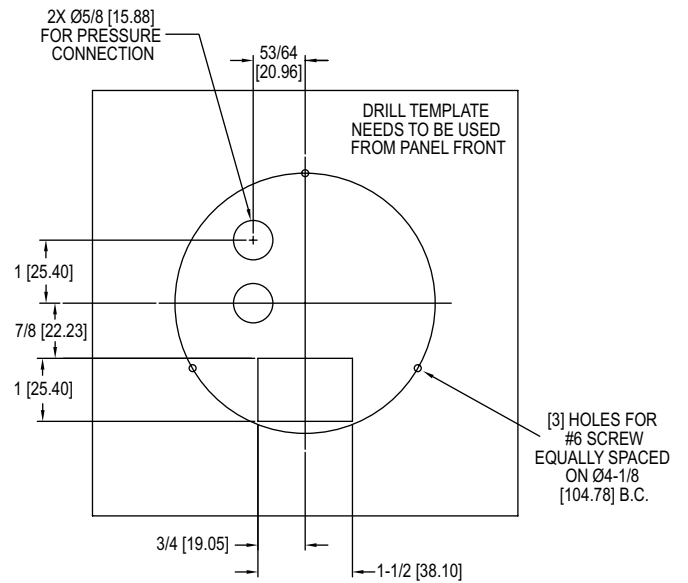
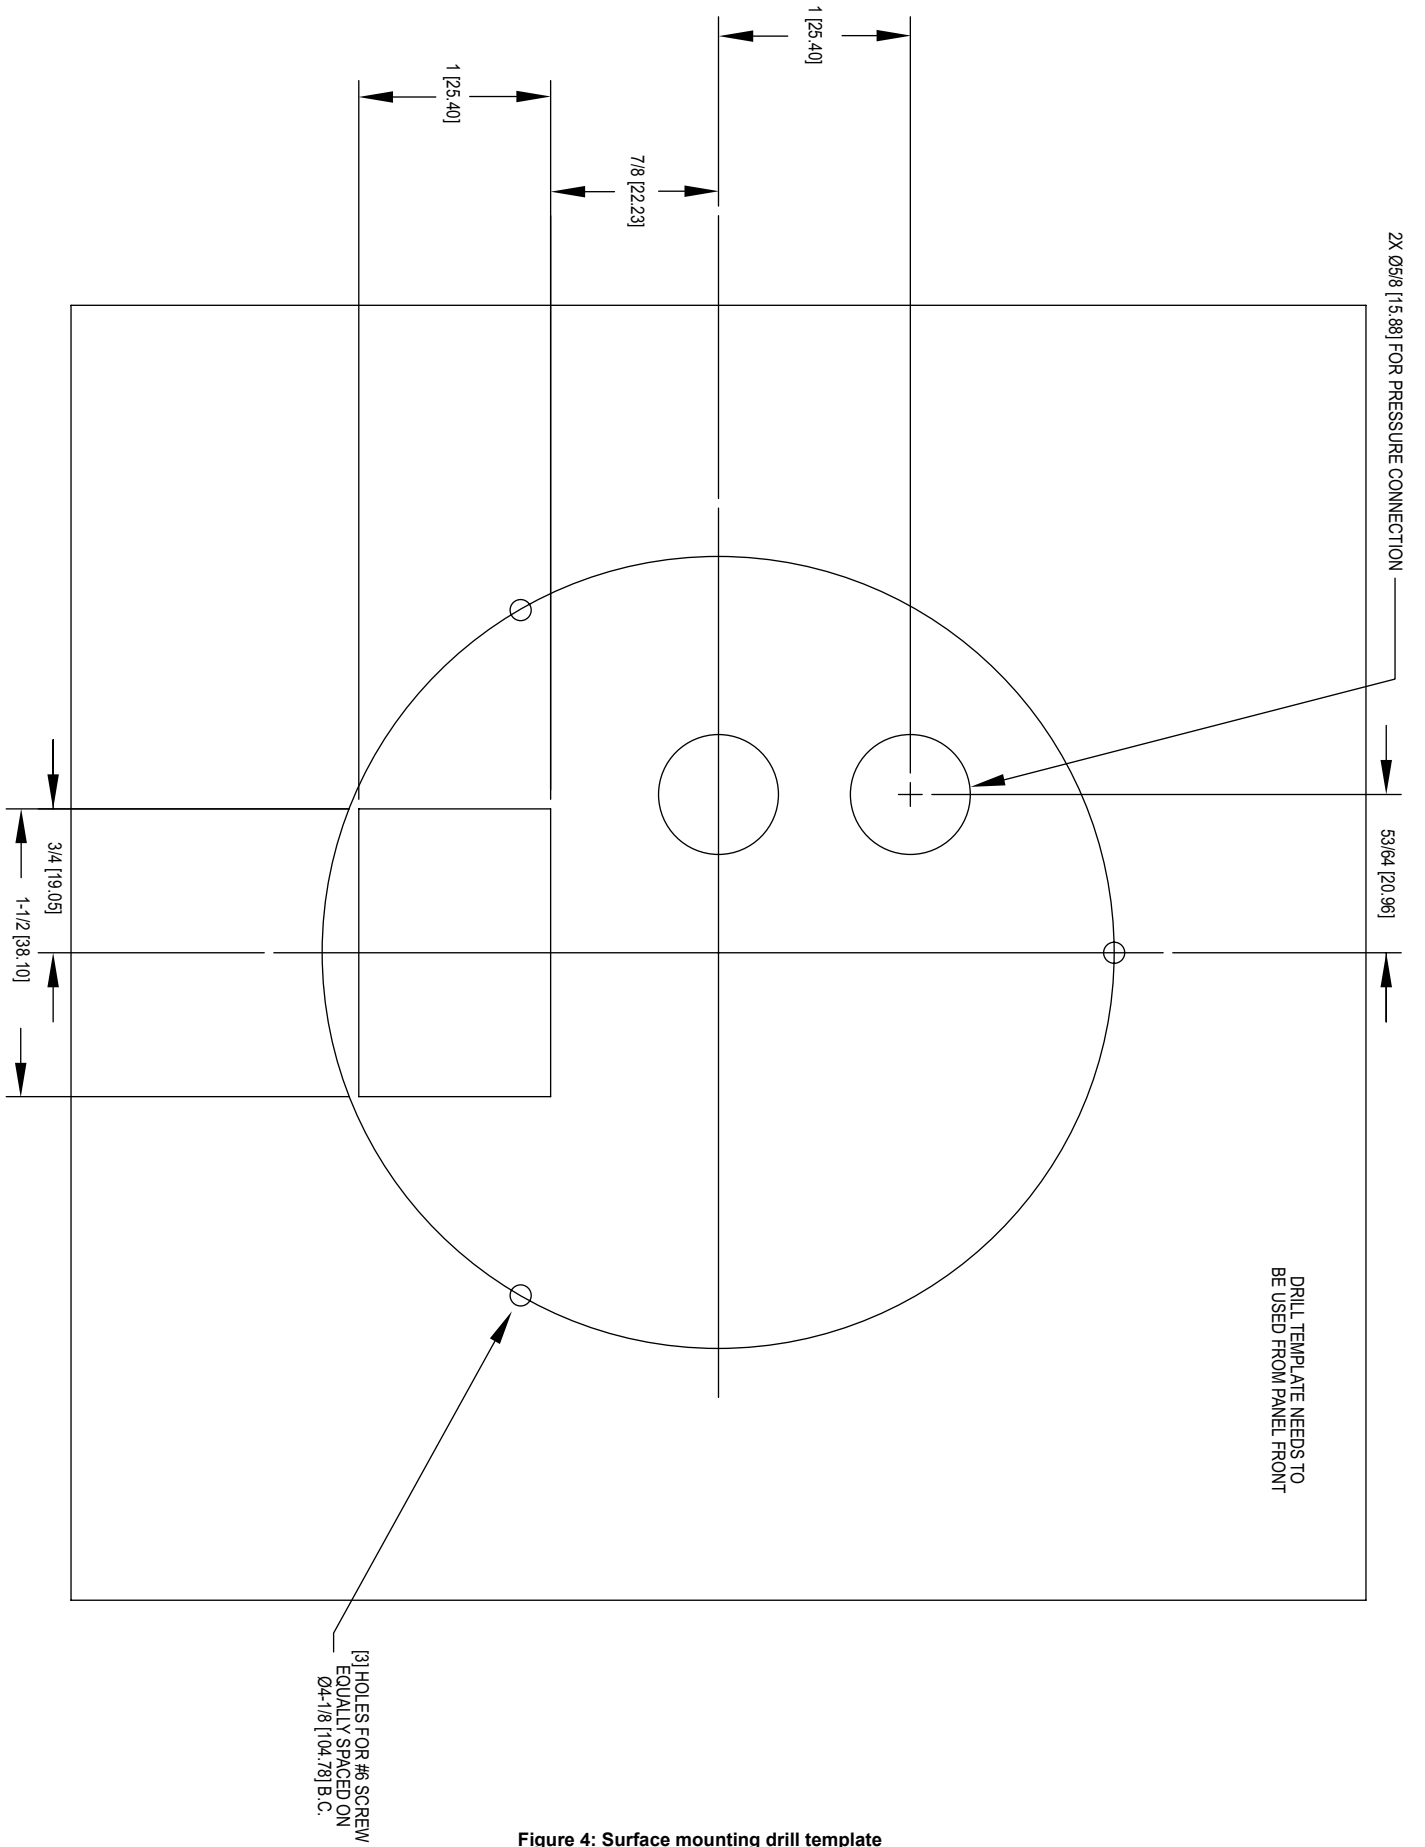

Figure 2: Surface mount
Figure 4: Surface mounting drill template
1. Use the drill template (Figure 4 on the next page) on the front of the desired mounting surface. Provide three 3/16" diameter holes in panel on a 4-1/8" diameter bolt circle. Cut the opening for the terminal block as shown in Figures 2 and 4.
2. If the rear pressure connections are to be used, also provide 1/2" diameter holes as shown in Figures 2 and 4.